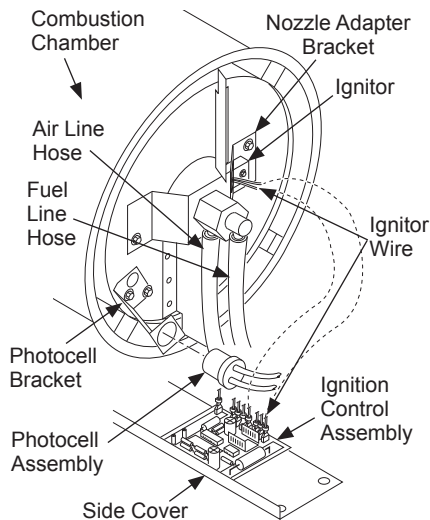

Figure 12 - Disconnecting Ignitor Wires from Ignition Control Assembly
3. Remove the control side cover with a 5/16" nut driver. Remove side cover (see Figure 12).
4. Disconnect ignitor wires from ignition control assembly (see Figure 12). Pull the ignitor wires up through the hole in the lower shell.
5. Disconnect fuel line hose and air line hose. Remove photocell from photocell bracket (see Figure 12).
11. Route the ignitor wires back down through the hole in the lower shell. Connect wires to the ignition control assembly (see Figure 12).
3. Remove old ignition control assembly. Install new ignition control assembly (see Figure 12, page 12).